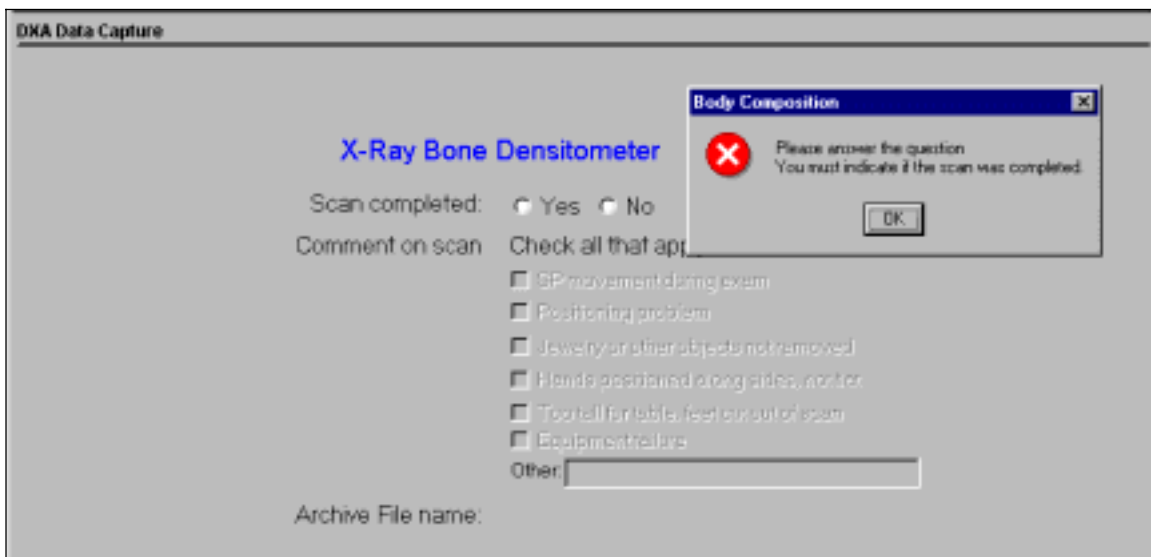

Figure 4-27. DXA data capture (required entry)
- If Yes or No is not checked on this screen, a message will be displayed: ‘Please answer the question. You must indicate if the scan was completed.’ See Figure 4-27.